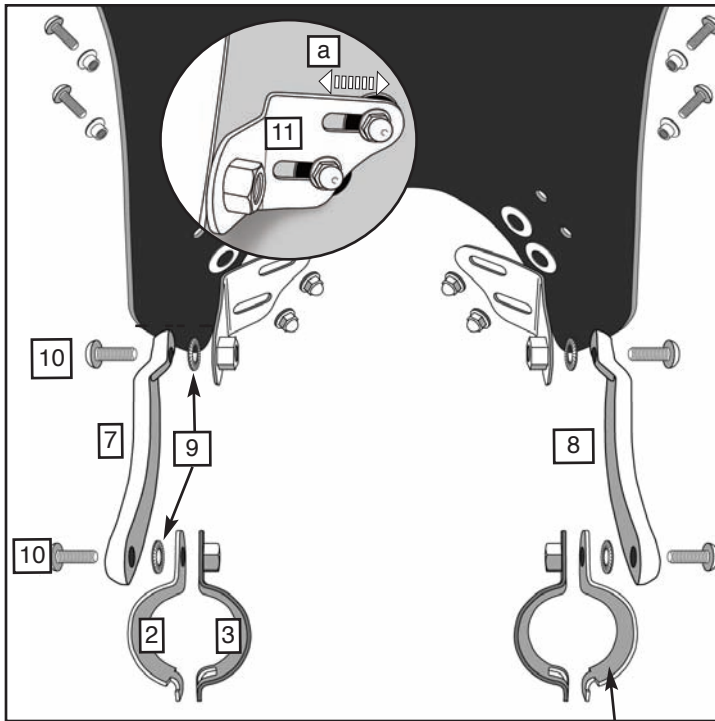

Figure 5
- a. Adjustment of Inside Bracket (11)
10. Install the Left Offset Bracket (8) to the Inner Bracket (11) with 1, Serrated Washer (9) and Screw (10). **(6mm Hex Wrench) Figure 5**
11. Repeat on Right side using Right Offset Bracket (8). **(6mm Hex Wrench) Figure 5**
13. Hold Inner Clamp (3) to inside of fork tube, hook Outer Clamp (2) to the Inner Clamp. **Figure 5 and 6**
14. Secure Clamp Assemblies to the Offset Brackets (7 and 8) with remaining M8 Screws (10) and Washers (9). **(6mm Hex Wrench) Figure 5.**